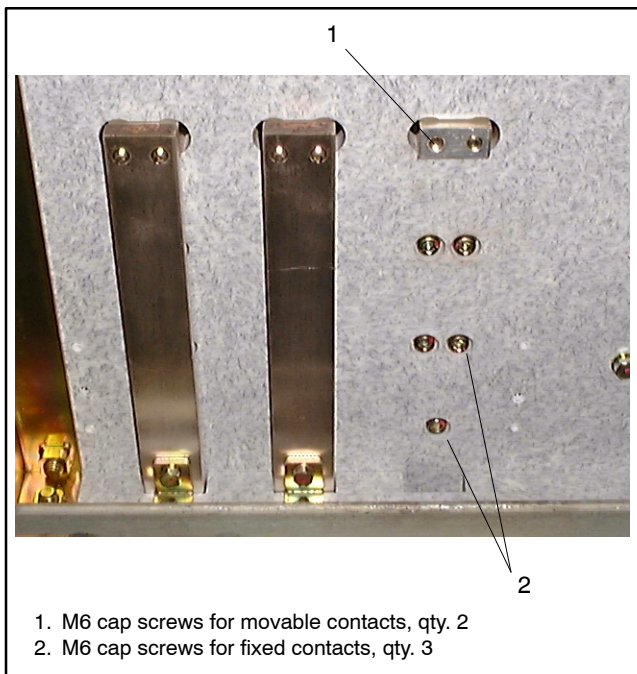

Figure 9-18 Contact Screws
2. Loosen the M6 cap screws (qty. 2) to replace the movable contacts. See Figure 9-18.
5. To replace the fixed contacts, loosen the M6 cap screws (qty. 3). See Figure 9-18.